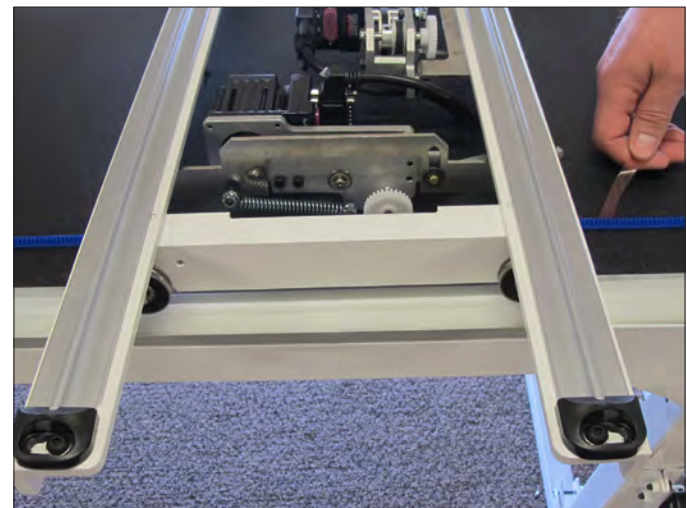
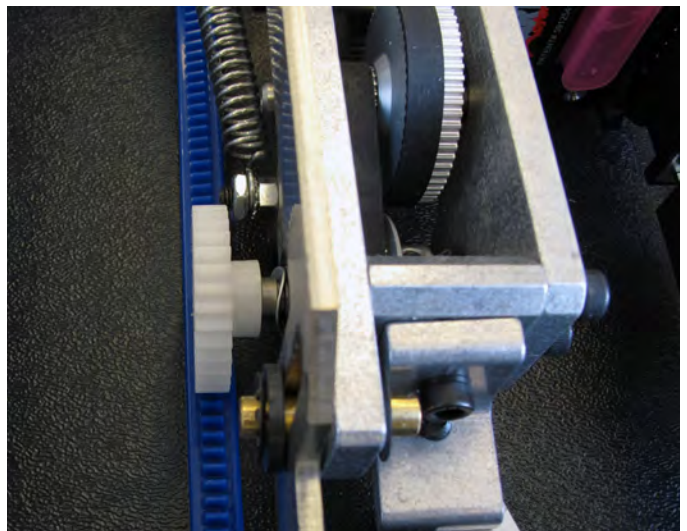

Figure 3.33
Figure 3.34
3. Place the HQ Pro-Stitcher carriage on the frame. Starting at one end of the table, begin mounting the blue Flexirack to the front of the table while aligning it to the front white gear on the carriage. (**Figure 3.33**) Peel back just a few inches of the pink protective layer of the tape. Position the blue Flexirack by aligning it to the white gear as you move down the table. (**Figure 3.33**). Press down on the blue Flexirack to stick it firmly to the table. Use the carriage as a guide and align the blue Flexirack with the white gear along the length of the table (**Figure 3.34**), removing the pink protective layer and pressing downward on the blue Flexirack while moving down the entire length of the table.